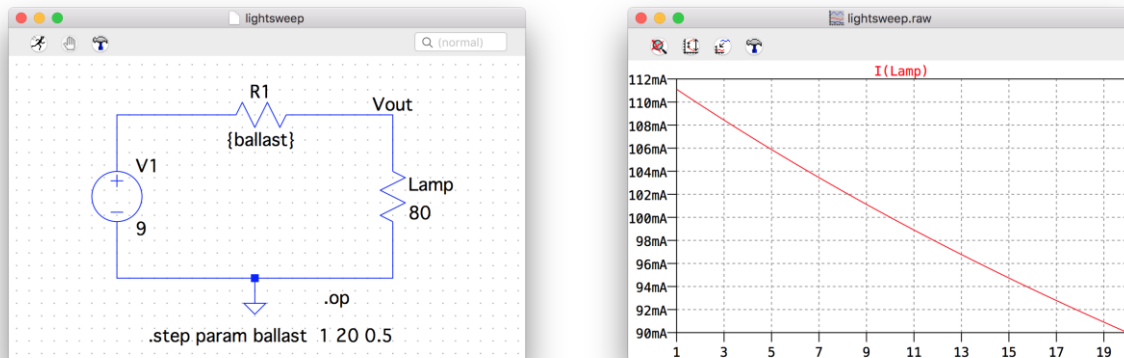

Figure 5: Circuit with lamp and stepped resistor values and corresponding simulation output.
- Run the simulation and add the trace `I (Lamp)` in the waveform window. You should then see a plot of `I (Lamp)` versus the value of `R1`, as shown in Figure 5.